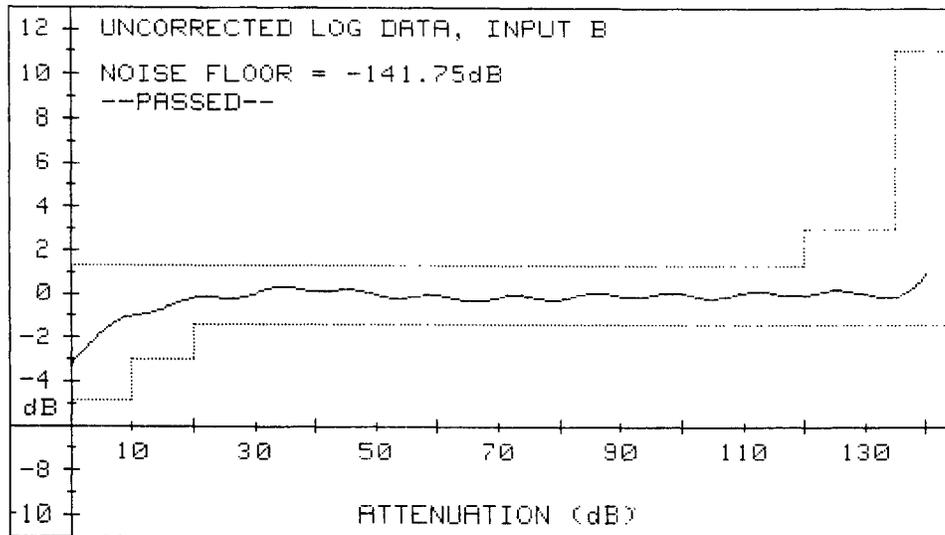

Figure 3-2. Typical Uncorrected Log Data Plot
- When the calibrator passes the "Self Check", the controller will automatically initialize the system and generate the calibration data for the input(s) desired. The controller generates the data by attenuating the 27.8 kHz signal from 0 dB to 140 dB in 0.5 dB steps. At each level of attenuation, the controller takes readings from the HP 8757A. These readings are used to create a table which characterizes the HP 8757A input being used. The readings are also plotted as normalized data. The normalized data is displayed on the CRT as a graph of "UNCORRECTED LOG DATA" and should be similar to Figure 3-2. Refer to Figure 1-2 to relate attenuation (dB) to power (dBm).